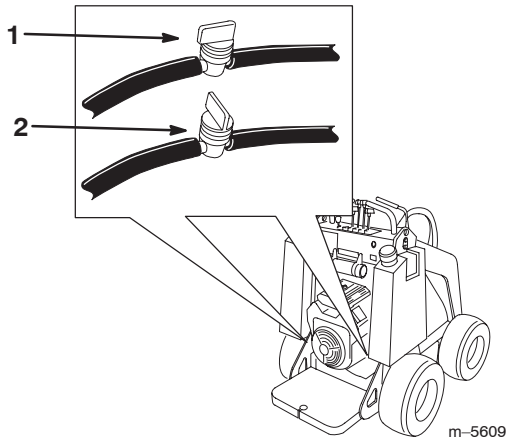

Figure 26
- Shut off the fuel valve on the bottom of each fuel tank (Fig. 26).
3. Shut off the fuel valve in the hose near the bottom of each fuel tank as illustrated in Figure 26.
8. Open the fuel valve in the hose near the bottom of each fuel tank as illustrated in Figure 26.